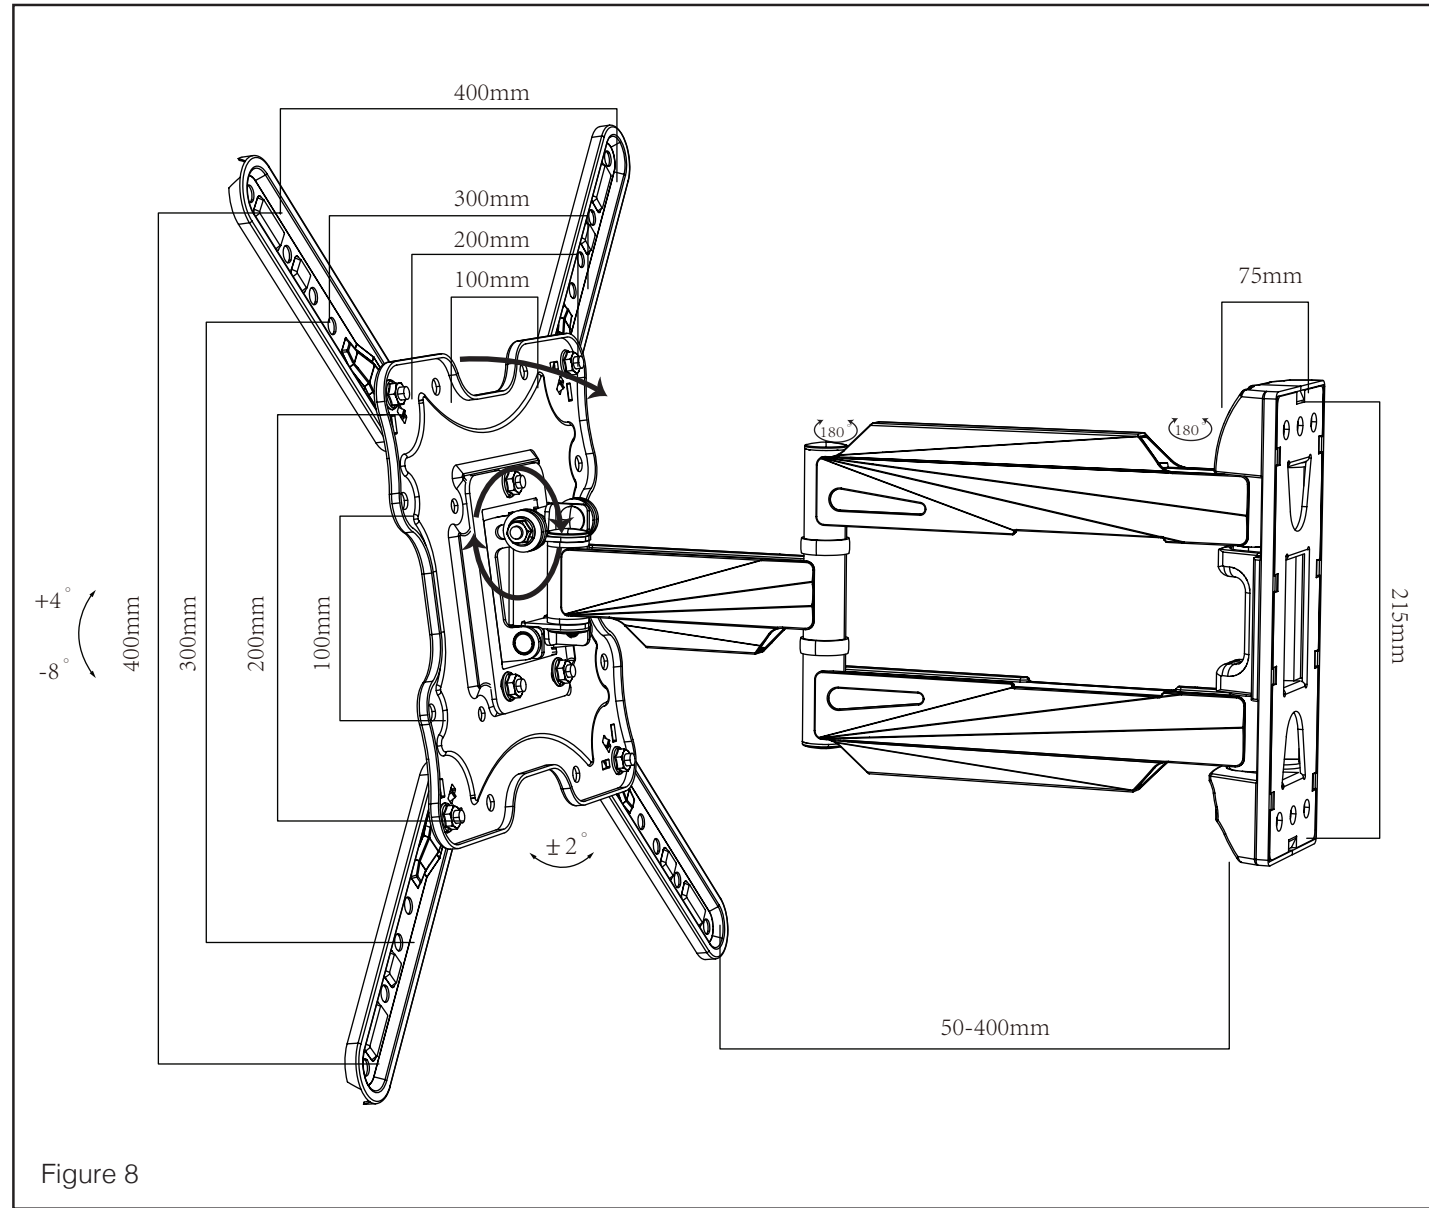

Figure 8
1. To change the tilt angle of your display, have one person hold the display firmly in place while another person loosens the tilt adjustment nut. Once loosened, move your display to the desired position, and then re-tighten the nut (see Figure.8). Do not release the display until the nut is fully tightened.